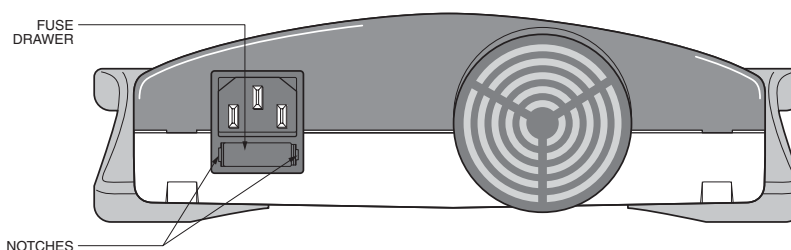

Fig. 7. Rear View Showing Fuse Drawer with Notches.
2. Insert a flat blade screwdriver into the notches of the power entry module's fuse drawer to release it. See Figure 7.